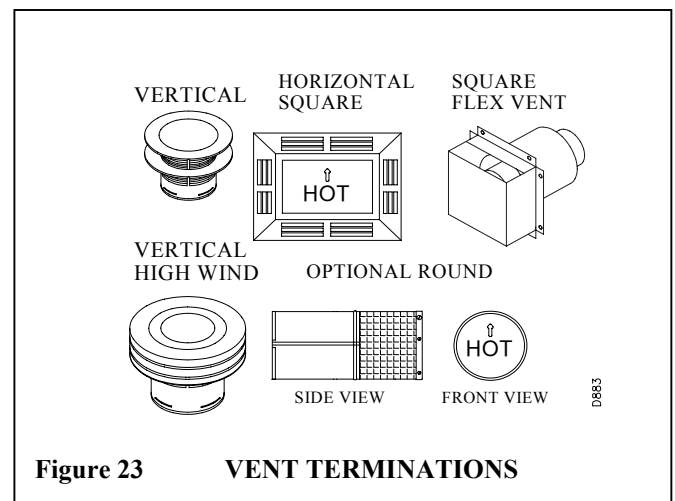

Figure 23 VENT TERMINATIONS
4. Three types of vent caps are available for horizontal terminations. Two square terminals are available; one for rigid pipe applications and one for flex pipe applications. A round vent termination with a slip fit connection is also provided for rigid pipe applications, when a wall thickness or off spacing must be accommodated. See figure 23 on page 10. Each may be purchased as a kit, which includes a 45° elbow and a firestop that accommodates a square or round termination.